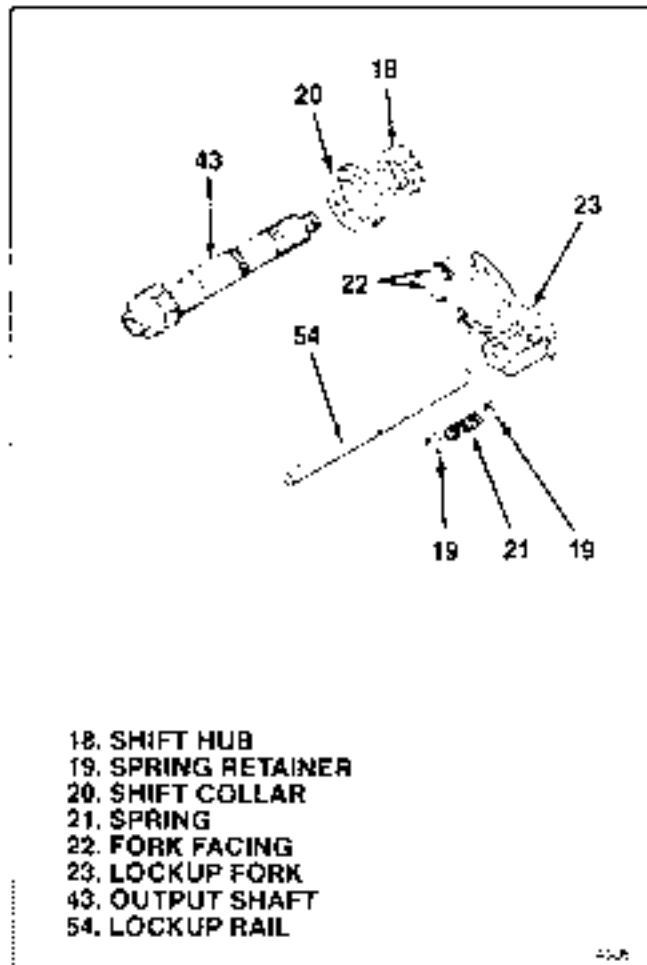
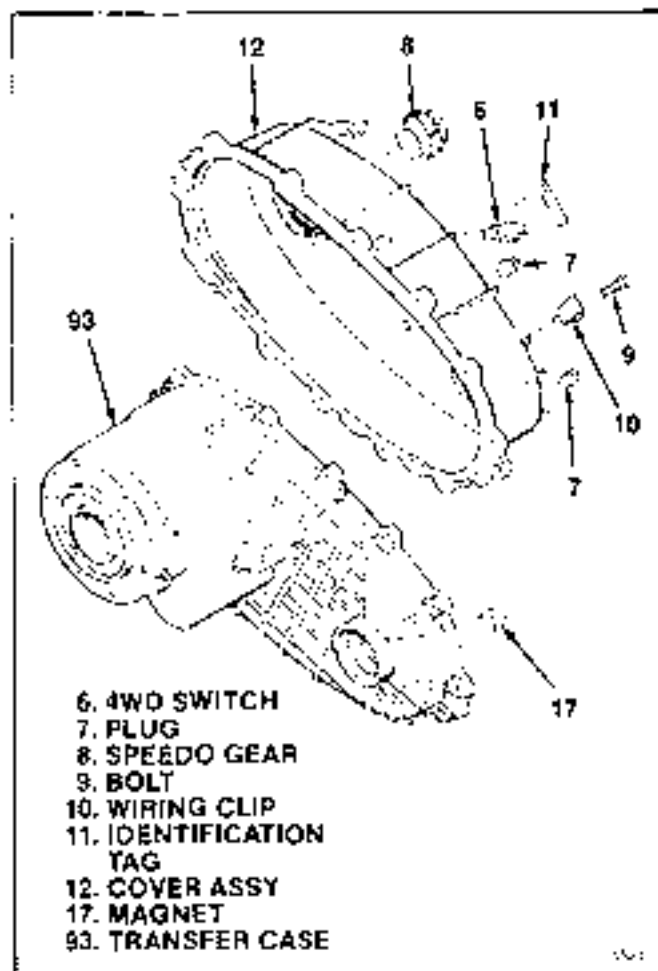

Figure 5-14. Lockup Shift Parts
Figure 5-16. Cover Installation
**5-13. INSTALLING LOCKUP SHIFT PARTS.** To assembly as completed thus far (24 through 93) install parts as follows (see figure 5-14):
a. Install two fork facings (22) on lockup fork (23).
b. Position spring (21) on lockup fork (23).
c. In one hand, hold lockup fork (23) with hub extension containing spring down. In other hand, hold shift collar (20) with hub extension up. Bring parts together engaging lockup fork in hub extension groove. Install assembled parts with shift collar onto upper output shaft (43) and lockup fork and spring (21) onto lockup rail (54).
d. Pry down on spring (21) and install upper spring retainer (19) on lockup rail (54). Flat on spring retainer must be aligned with flat on lockup rail. Pry up on spring and install lower spring retainer in same manner.
e. Install shift hub (18) over spline on upper output shaft (43).
**5-16. INSTALLING COVER ASSEMBLY.** To assemble as completed, transfer (18) through (20) install parts as follows (see Figure 5-16):
- a. Install magnet (17) in slot in transfer case (93).
- b. Apply continuous 1/16 in. (1.6 mm) bead of Aquantastic RTV No. 132 or General Electric Silicone RTV No. 1173, all around transfer case (93) mounting area for cover assembly (12). Center sealant bead between edges of face. Create or lay double thickness sealant bead through bolt holes.
- c. Install cover assembly (12) on transfer case (93), aligning dowel pins (92) and pulling output shaft (43, figure 5-14) through cover. It may be necessary to use screwdriver to position lockup pin (64, figure 5-14) to enter hole in cover.
- e. Install speedo gear (8) over spline of output shaft (43, figure 5-14) into cover assembly (12).
- f. Install two plugs (7) and torque to 10-20 lb-ft (13.6-27.1 Nm).
- g. Install 4WD switch (6) and torque to 8.0-12.0 lb-ft (10.9-16.3 Nm).